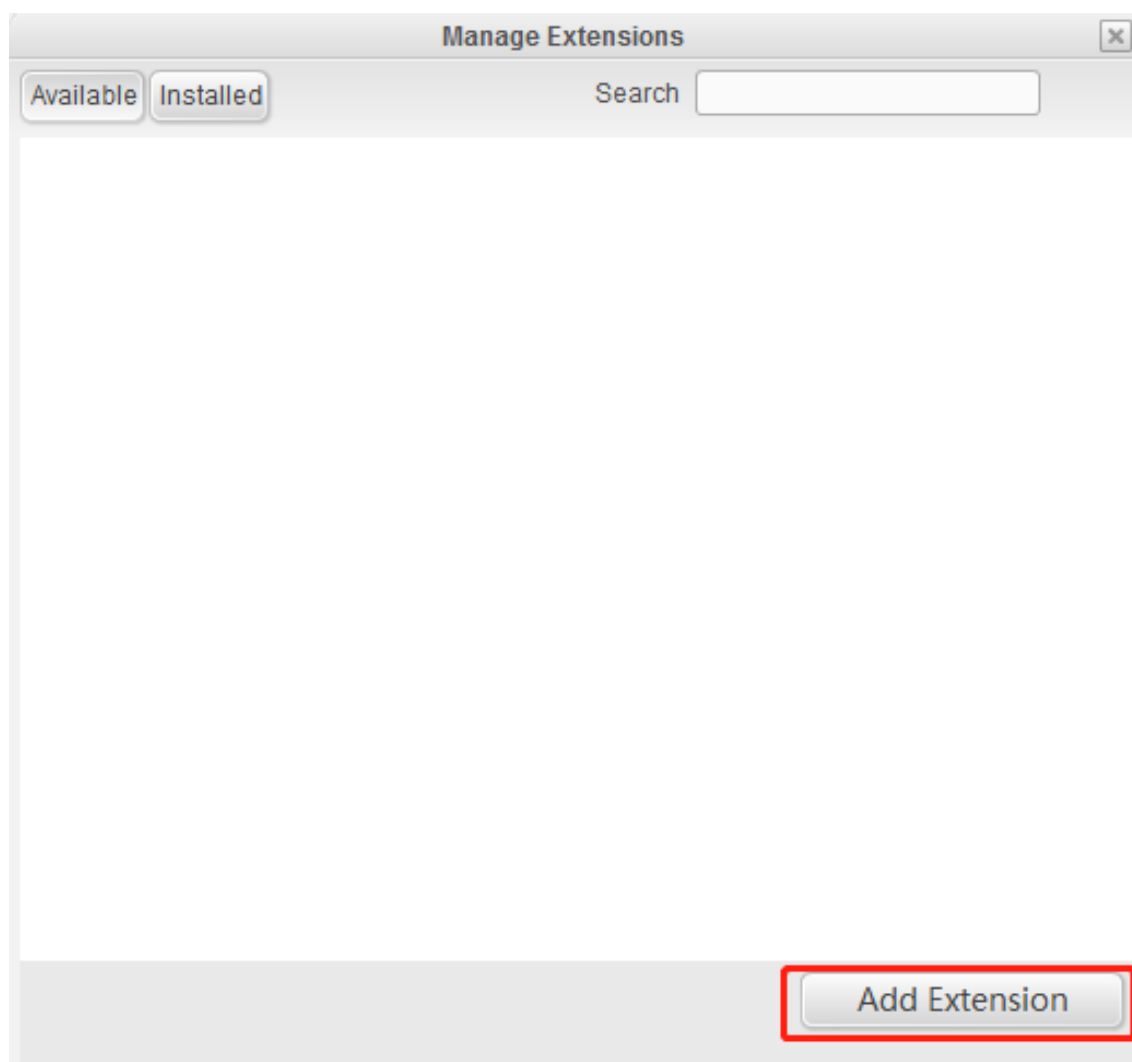

Figure 2-2
- 3) Add extensions in the lower right corner of the extension manager center, as shown in Figure 2-2;